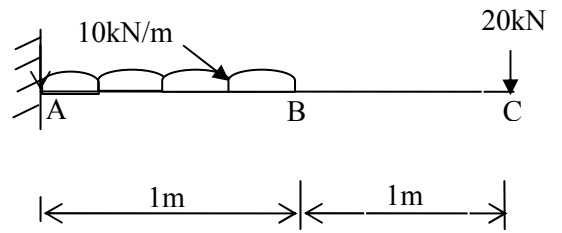

Fig. 5 Q. 5 (b)
- (b)** For the beam shown in Fig.5 determine maximum slope and deflection at the free end by using Macaulay's method. Take $EI = 2 \times 10^4$ kN-m². 07